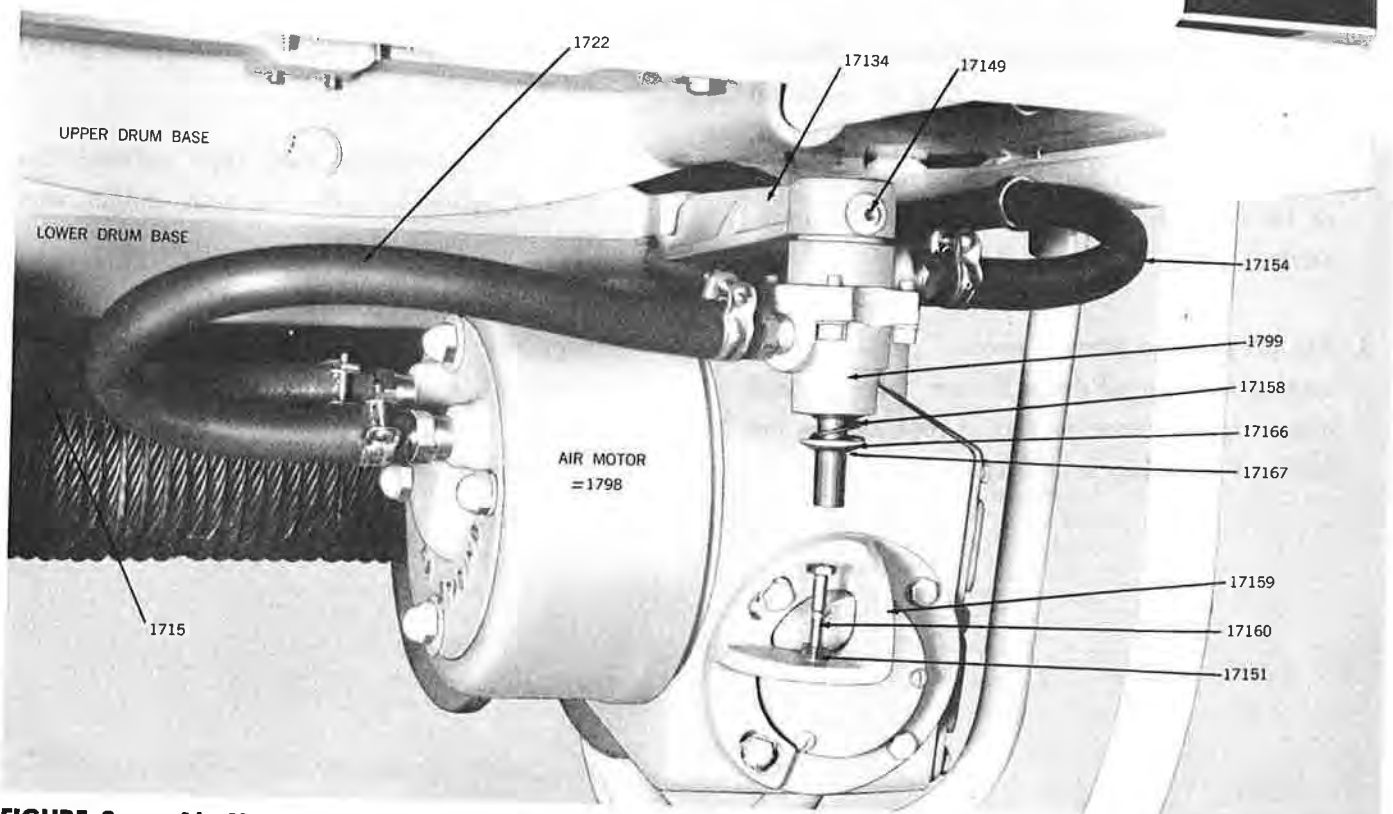

FIGURE 3 — Air Motor, Control Hoses and Overload Mechanism
(Figures 3 and 4. Stagings equipped with level wind.)
1. If the staging is being shut off at too light a load, loosen lock nut on adjustment bolt, (Part No. 17160), Fig. 3, and turn adjustment bolt to the right (clockwise) until staging will lift a load up to approximately 1,000 pounds.
(Figures 3 and 4)